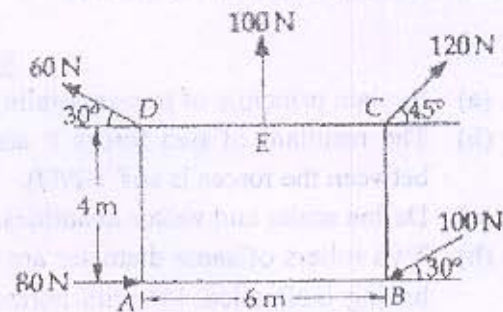

Figure 2
- (b) A plate measuring 6m x 4m is acted upon by a set of forces in its plane as depicted in **Figure 2**. Determine the magnitude, direction and position of the resultant force with respect to point A. [05]